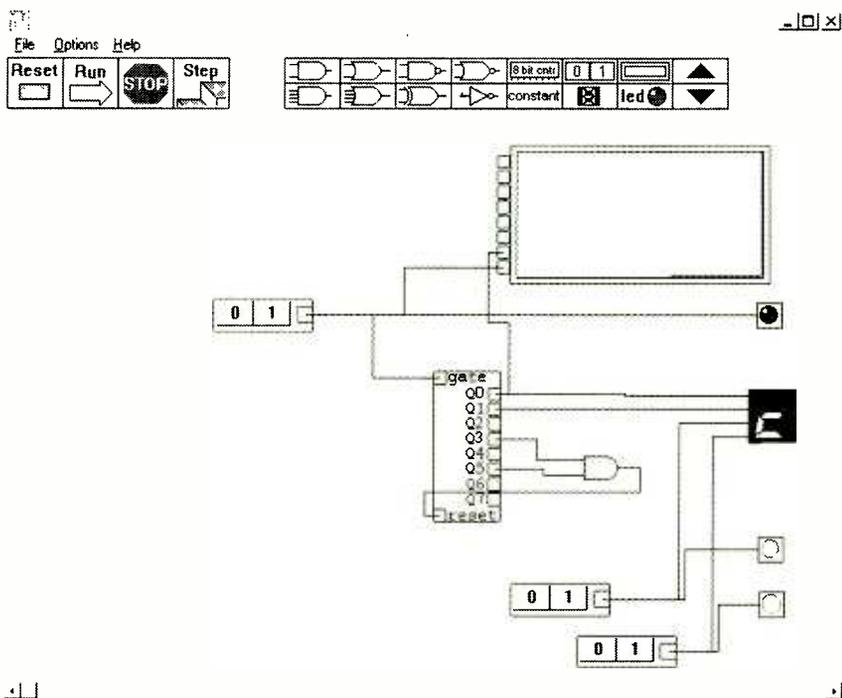

FIG. 2—HERE, CLICK-N is used to simulate a circuit and monitor its response.
offered was the single-input/dual-output equal-winding transformer shown in Fig. 1. You can see that it has only one electrostatic shield shared between the two outputs and one input. The transformer was built into a sturdy metal box and marketed as a Sescom model MS-1. It was also sold as a model 66J0036 audio transformer. The full schematic of the unit is shown in Fig. 2.
**FIG. 2**—THE TRANSFORMER SHOWN in Fig. 1 was installed in a metal box and a ground-lift switch was placed in the output circuit to eliminate ground-loop problems.